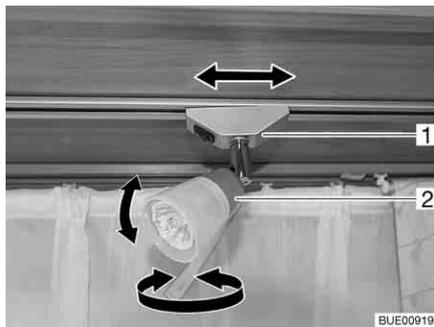

Fig. 43 Spotlight
**Turning:** ■ Grasp the housing (Fig. 43,2) and turn it.
**Shifting:** ■ Grip holder (Fig. 43,1) and turn by approx. 45°.
**Removal:** ■ Grip holder (Fig. 43,1) and turn by approx. 90°.